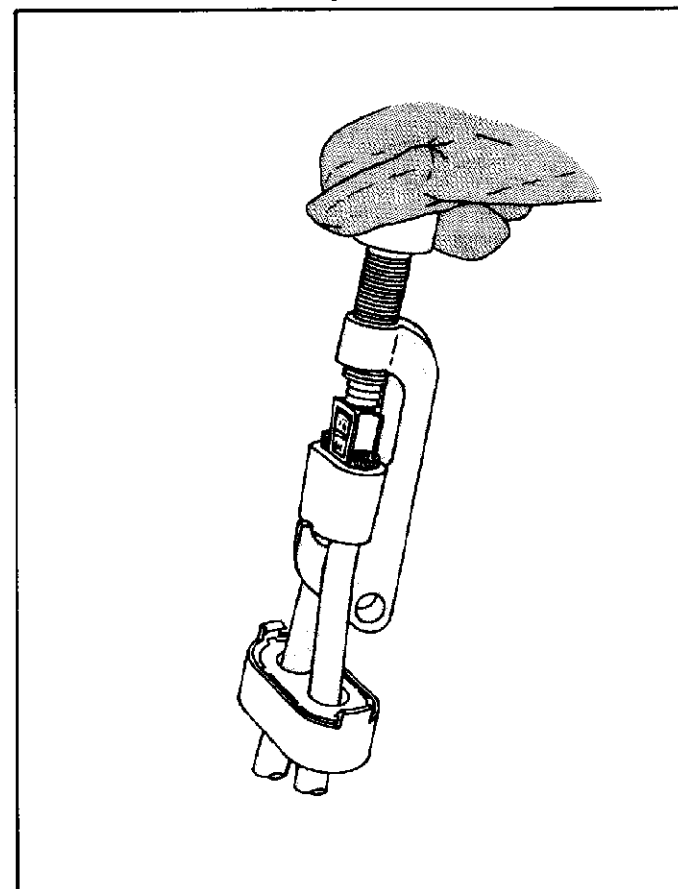

Figure 8
- (f) Apply tap, using standard procedures and observing SAFETY PRECAUTIONS described in Customer Manual CM 2106, packaged with AMPACT tool. See Figure 8. Keep face away from line of action when firing tool.